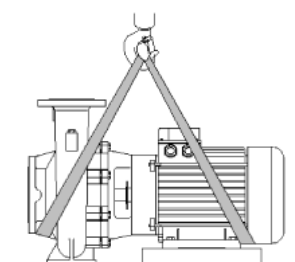

Fig. 2: Transporting the pump
- The transport eyes on the motor are only for guiding while bearing the load (See Fig. 2).